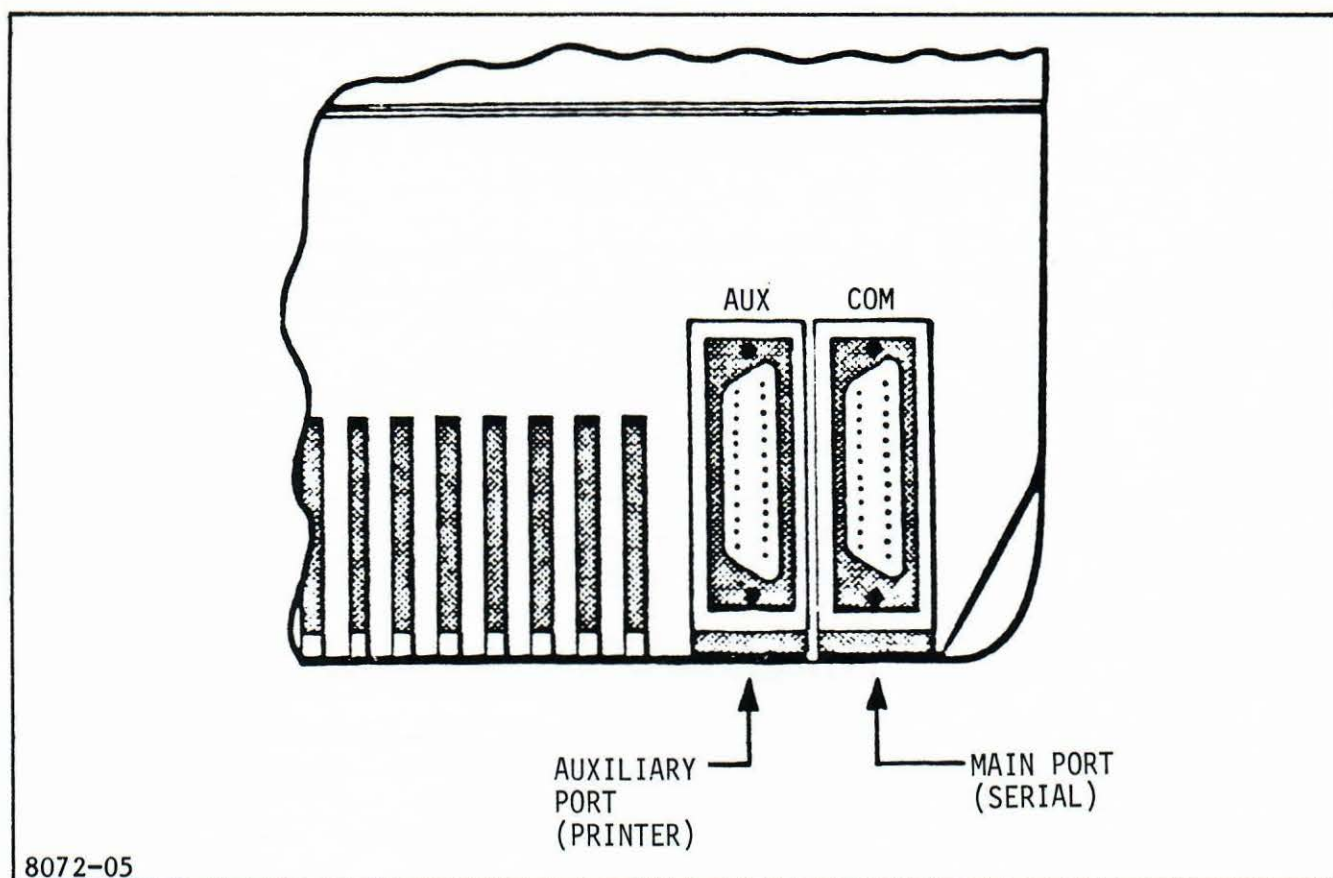

Figure 2-2. Right Rear View
6. Connect the S/10 auxiliary I/O port to your printer. The auxiliary port is the leftmost connector on the lower righthand side of the terminal as viewed from the back (see figure 2-2). The port requires a male 25 pin D connector which complies with EIA specification RS-232C.